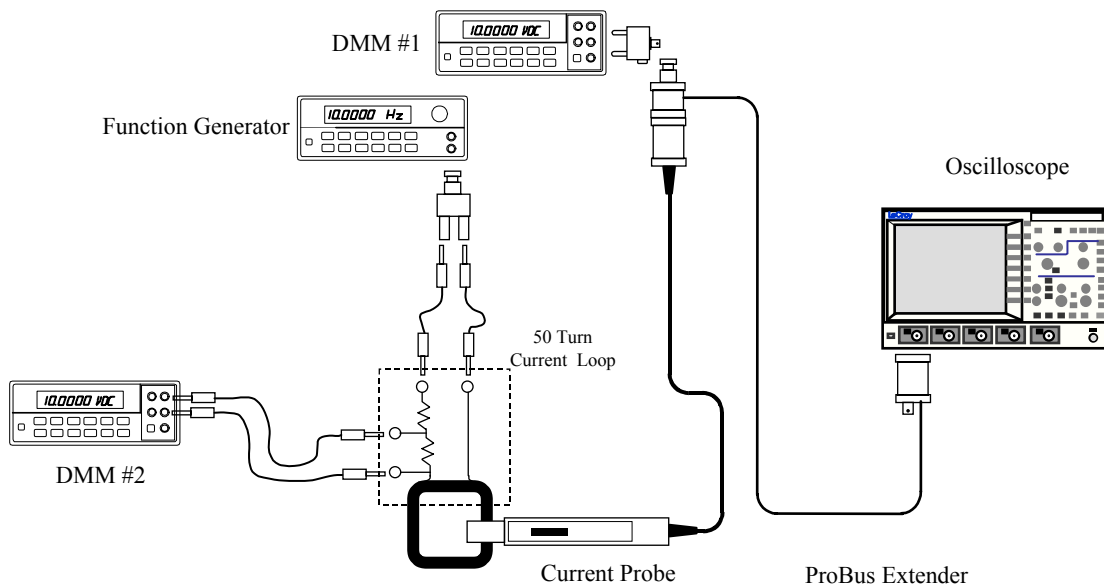

Figure 5-1. LF Accuracy Test Set Up
3. Using the banana patch cords and the BNC to Dual Banana Plug Adapter, connect the 'V Source' and 'V Return' terminals of the 50 Turn Calibration Loop to the output of the Function Generator. (Figure 5-1)